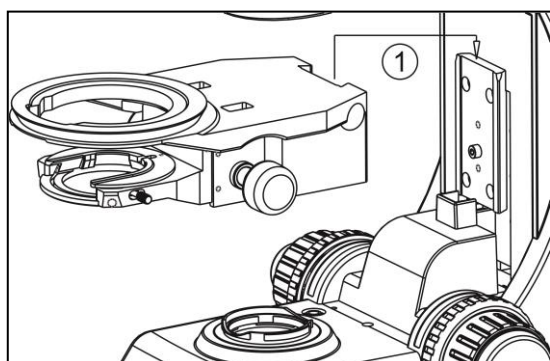
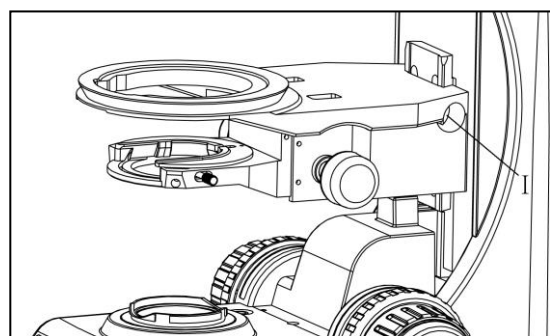

Fig 1
Fig 2
4-2-1 Install the Mechanical Slide Bracket (fig 1, fig 2)
★ Install the platform bracket according to the path of ① in figure 1. The dovetail slot needs to align with the slot of platform bracket, sliding it until the screw fix it. Then use the hex wrench tighten the screw shown as I in figure 2.
★ Install the mechanical object stage according to the path of number ② in figure 2. First align the object stage's hole center and the bracket circle center, then object stage downward slides the bracket locating ring